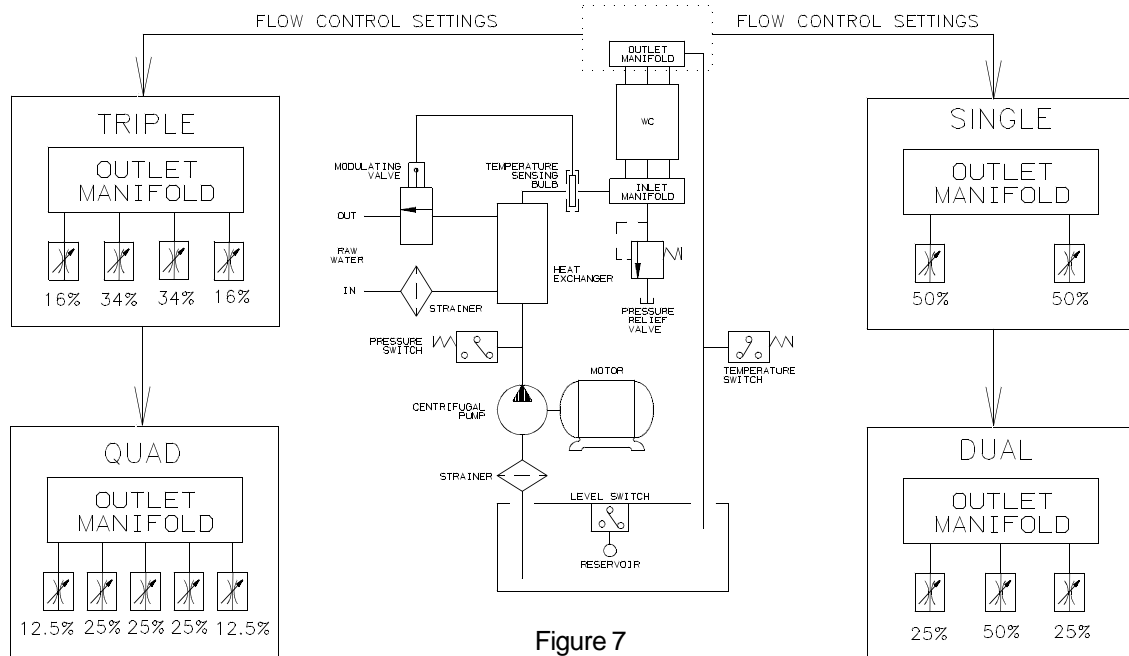

Figure 7
- 2.5.1 Coolant supply connections to the tensioner should provide a parallel flow through each section of the tensioner. Series flow is not generally recommended, contact Airflex for specific applications. Inlet and outlet coolant manifolds must be provided with flexible connecting hose to each tensioner coolant section. Coolant supply connection to the tensioner must be flexible to allow axial travel of the pressure plate and reaction plate during tensioner operation. Coolant and coolant supply lines should be free of foreign material (a 500 micron water filter is recommended). Reductions in the recommended line diameter should be avoided. Avoid loops and bends in the lines which may create air pockets, which substantially reduce the flow of coolant. Figure 7 illustrates a typical closed loop liquid to liquid coolant system. The heat exchanger and temperature control would be replaced with a radiator, fan and motor in a liquid to air system.
- 2.5.2 Figure 7 shows the flow control valve settings for each type of element depending on the number of friction surfaces to be cooled.